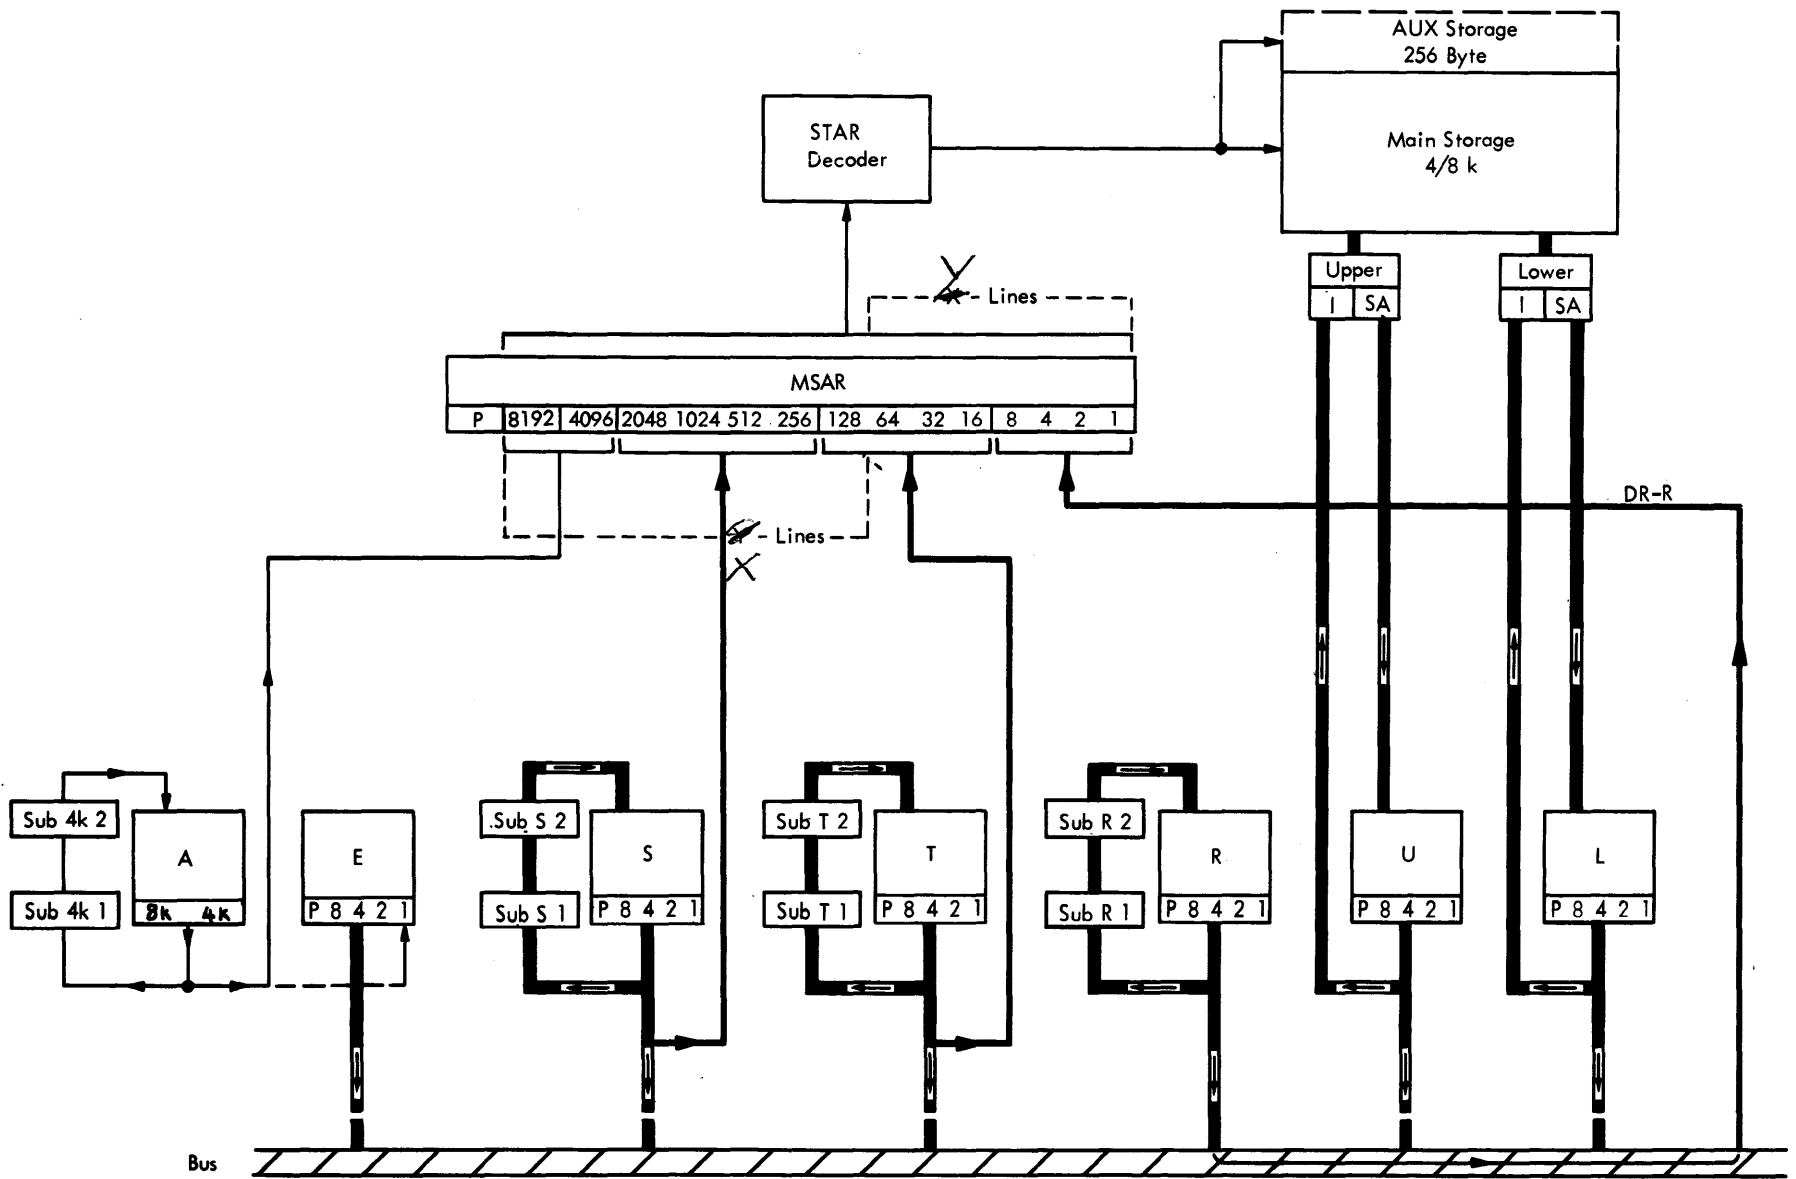

Figure 2-14 Main Storage Addressing System
- To address an 8K Main storage, the binary address is contained in DR-S, T, R and the high order position in DR-A (Figure 2-14).
To address a byte in Main storage, DR-A, DR-S and T are directly wired to the corresponding STAR position (Figure 2-14). The contents of DR-R is gated to the bus and from there to the four lower STAR positions.
### Addressing the 4K Storage (Figures 2-14, 2-15, 2-15a and 2-16)
There are 128Y drive lines separated into a group of 16 Write Driver/Read Switches, with 8 lines to each of the 16 Drive/Switches (-1-). These 16 Write Driver/Read Switches are addressed by the DR-R 1, 2, 4 and 8 bits via STAR positions 1, 2, 4 and 8. See Figures 2-14 and 2-16. The other end of the 128Y drive lines are connected to 8 Read Driver/Write Switches with 16 lines to each of the 8 (-2-). These 8 Read Driver/Write Switches are addressed by the DR-T 1, 2, and 4 bits via STAR positions 16, 32, and 64.
- Figures 2-14 and 2-19 show the Data Paths for addressing Core-storage.